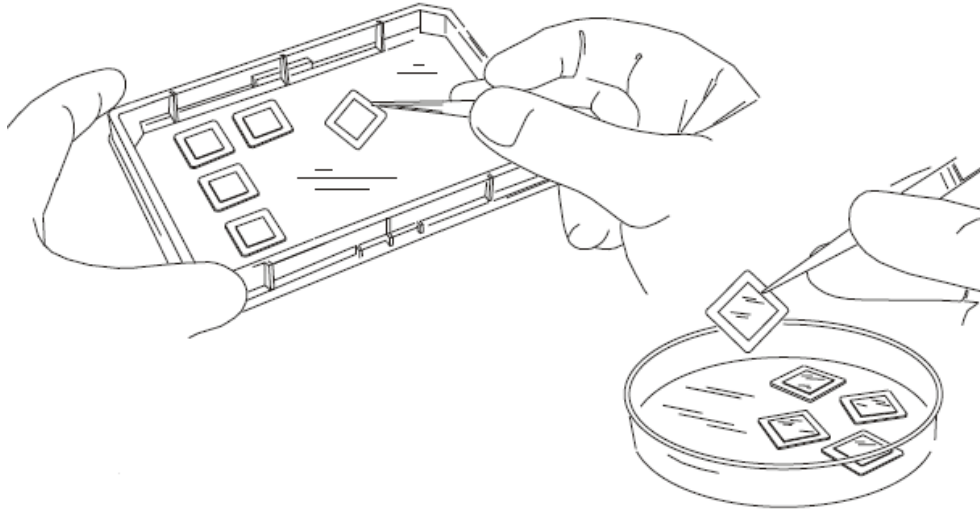

Figure 4
4. Place SecureSlips into sterile CultureWell plates or culture dishes as shown in Figure 4.